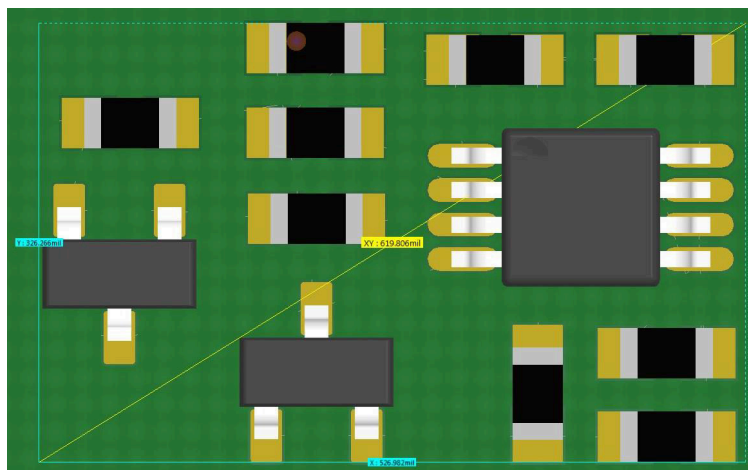

Figure 2-4. Two TL431LI + Dual Comparator Example Layout
- Two TL431LI + Two Comparators:** This solutions uses four lower cost components to create an undervoltage and overvoltage monitoring solution. The solution requires at least four external resistors to set the fault threshold of the two TL431LI devices in addition to two pull-up resistors for each. An additional two external resistors for each comparator is required if level shifting is needed. Although this solution can be lower cost, often times the size of the devices plus the external components make it a large footprint solution as shown in Figure 2-4. The monitoring accuracy depends on the grade of TL431LI in addition to the grade of the resistors used. This solution provides typical monitoring accuracy between 3% to 6% and does not provide accurate hysteresis.